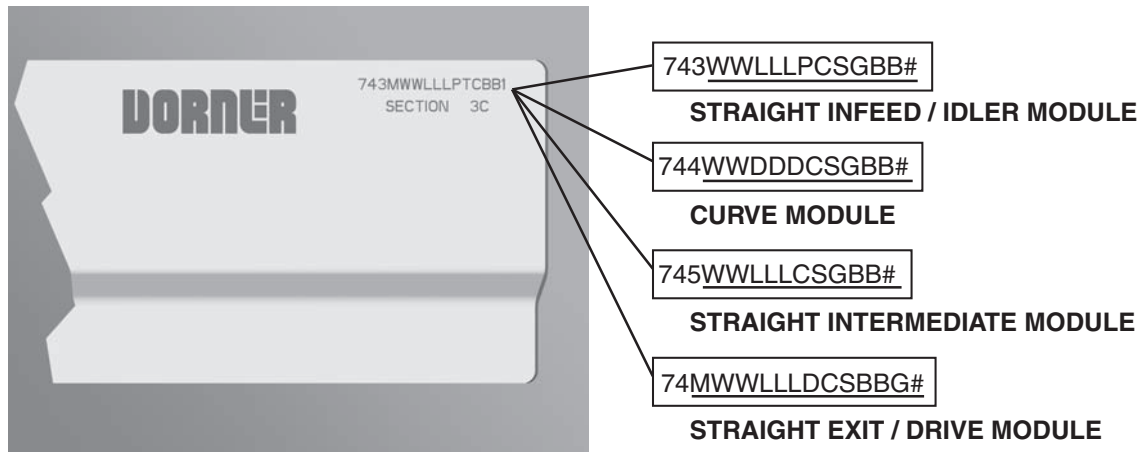

Figure 89
Refer to your serial and model number plate (**Figure 89**). From the model number, determine conveyor width (WW), length (LLL), pulley type (P), stand location, cleaning options (C), stand holes (S), guide profile (G), belt material (BB), degree of turn (DDD), drive/pulley type (D) and module serialized sequence (#).